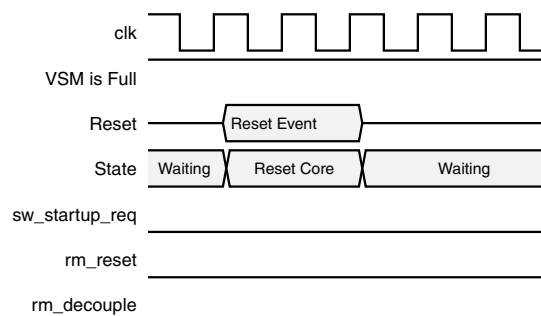

Figure 3-18: **`vsm_<name>_rm_decouple` during a core reset while the Virtual Socket Manager is full. (Optional Reconfigurable Module startup steps are disabled.)**
2. If the Virtual Socket was full before reset then `vsm_<name>_rm_shutdown_req` will be deasserted. See Figure 3-15 and Figure 3-18.
Figure 3-18 shows a full Virtual Socket Manager (`vsm_<name>_rm_decouple = 0`) during a core reset.